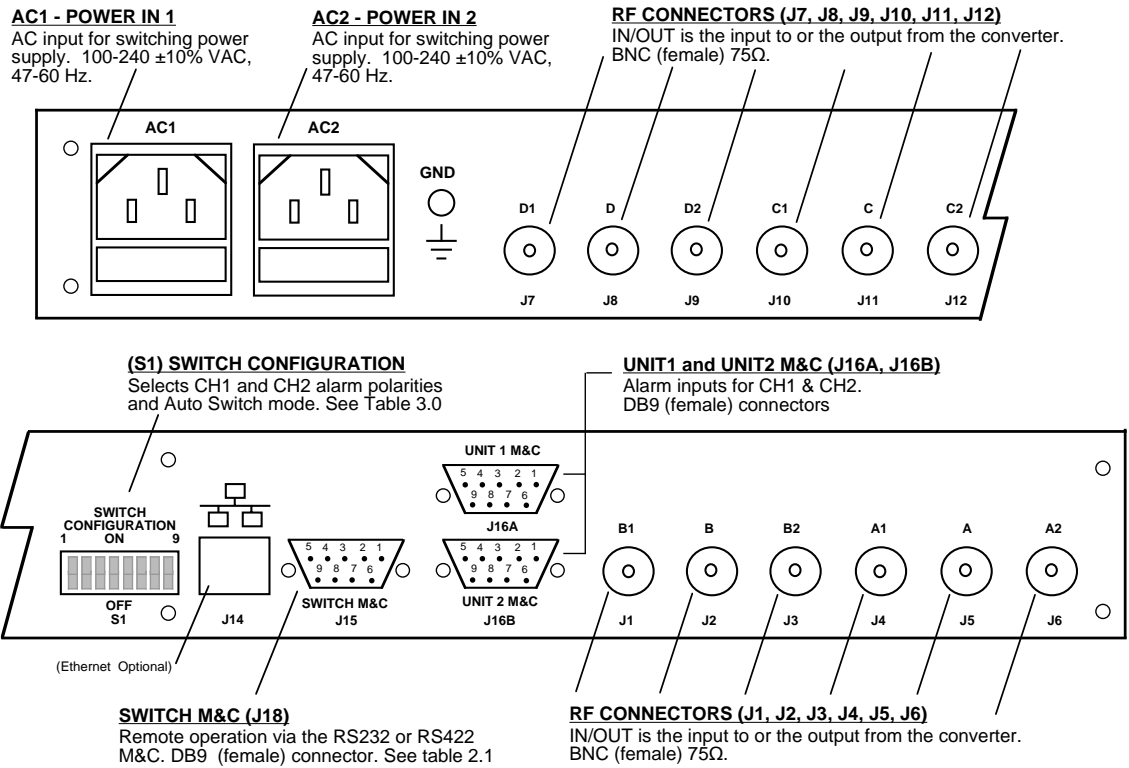

FIGURE 2.2 1582-125L2 Switch Rear Panel Inputs/Outputs
Figure 2.2 shows the input and output connectors on the rear panel.
4. Connect to signals on the MONITORS AND CONTROLS (DB9 connectors), J16A & J16B, as desired (see Figure 2.2, Table 2.1).